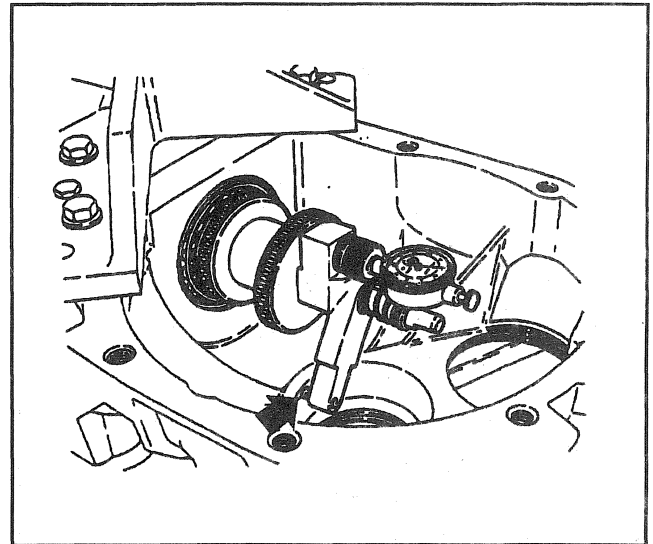

Figure 27—Measuring Pinion Depth-Button Located in Bearing Bore
11. Set the button of J 36601 on the differential bearing bore (Figure 27).